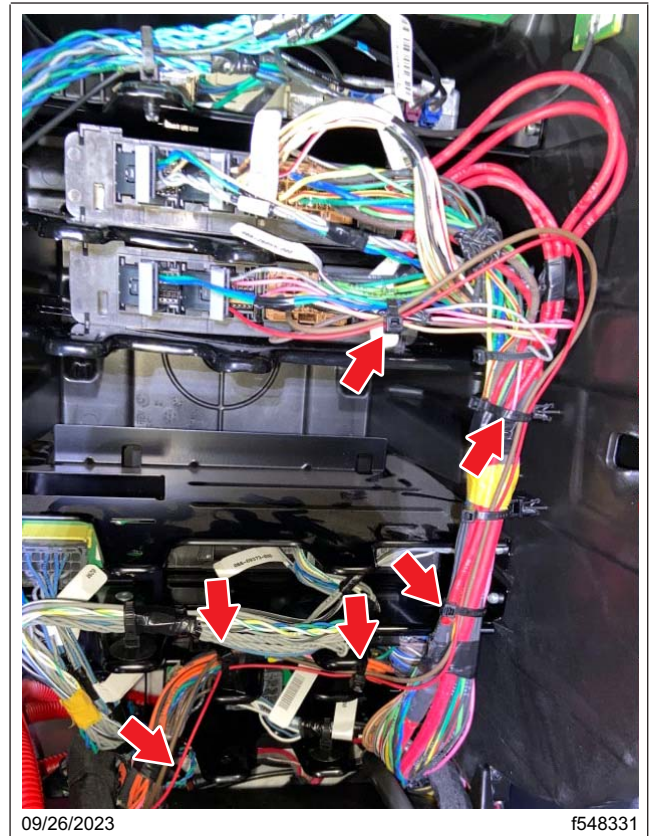

Fig. 63, Securing the Wiring Routed to the XMC2
- 13.18 Secure the red wire routed to XMC2, and the brown wire removed from XMC2 using zip ties as needed. Follow Daimler routing and clipping standards. See Fig. 63.